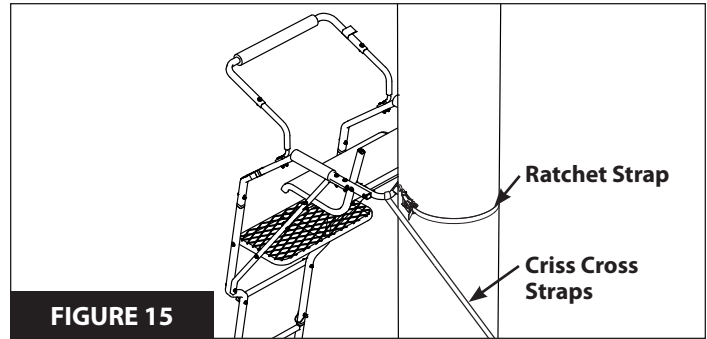

FIGURE 15
8. a. Standing on ladder step, lean toward tree with ratchet strap now in hand, Hook "S" hook with long strap through hole provided on tree blade. Feed the long strap through the center (slot) of ratcheting mechanism and back around through tightening lever. **SEE FIGURES 15, 16A AND 16B.**